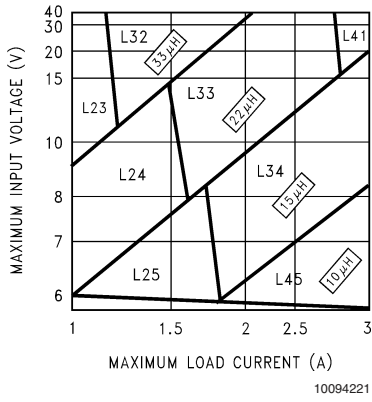
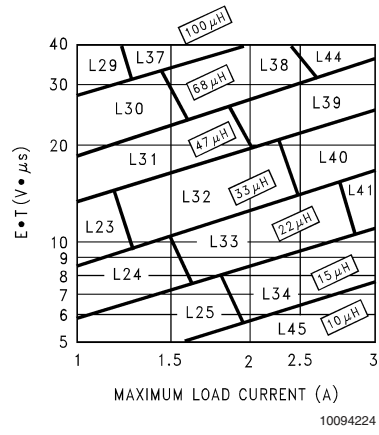

FIGURE 3. LM2670-3.3
FIGURE 6. LM2670-ADJ
Step 3: Determine the inductor required by using one of the four nomographs, *Figure 3* through *Figure 6*. Table 1 provides a specific manufacturer and part number for the inductor.
Step 5: Determine an input capacitor from Table 4 for fixed output voltage applications. Use Table 2 to find the specific capacitor type. For adjustable output circuits select a capacitor from Table 2 with a sufficient working voltage (WV) rating greater than $V_{in\ max}$, and an rms current rating greater than one-half the maximum load current (2 or more capacitors in parallel may be required).
Step 3: Use the nomograph for the 3.3V device, *Figure 3*. The intersection of the 16V horizontal line ($V_{in\ max}$) and the 2.5A vertical line ($I_{load\ max}$) indicates that L33, a 22 μH inductor, is required.
Step 3: To use the nomograph for the adjustable device, Figure 6, requires a calculation of the inductor Volt•microsecond constant (E•T expressed in V•µS) from the following formula:
Using Figure 6, the intersection of 27V•µS horizontally and the 2A vertical line (I_{load max}) indicates that L38, a 68µH inductor, should be used.
Important Note: When using the adjustable device in low voltage applications (less than 3V output), if the nomograph, Figure 6, selects an inductance of 22µH or less, Table 6 does not provide an output capacitor solution. With these conditions the number of output capacitors required for stable operation becomes impractical. It is recommended to use either a 33µH or 47µH inductor and the output capacitors from Table 6.